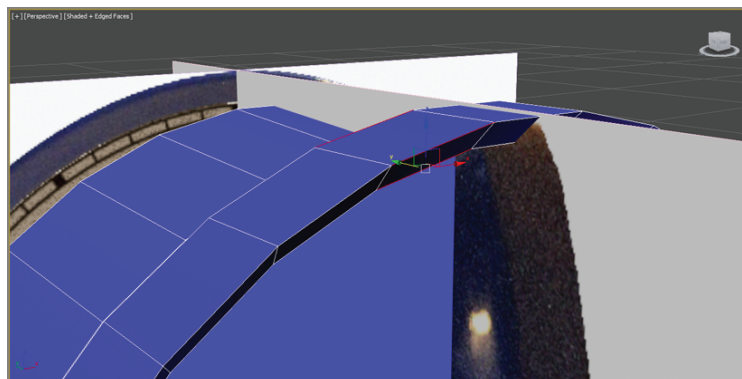

FIGURE 2.15 Select these two edges.
16. On the front face of the clock, select an edge on the lip (where the clock face will be). Then hold the Ctrl key and select three more edges going towards the back of the clock, as shown in Figure 2.15 (which has See-Through mode turned off with shortcut Alt+X).